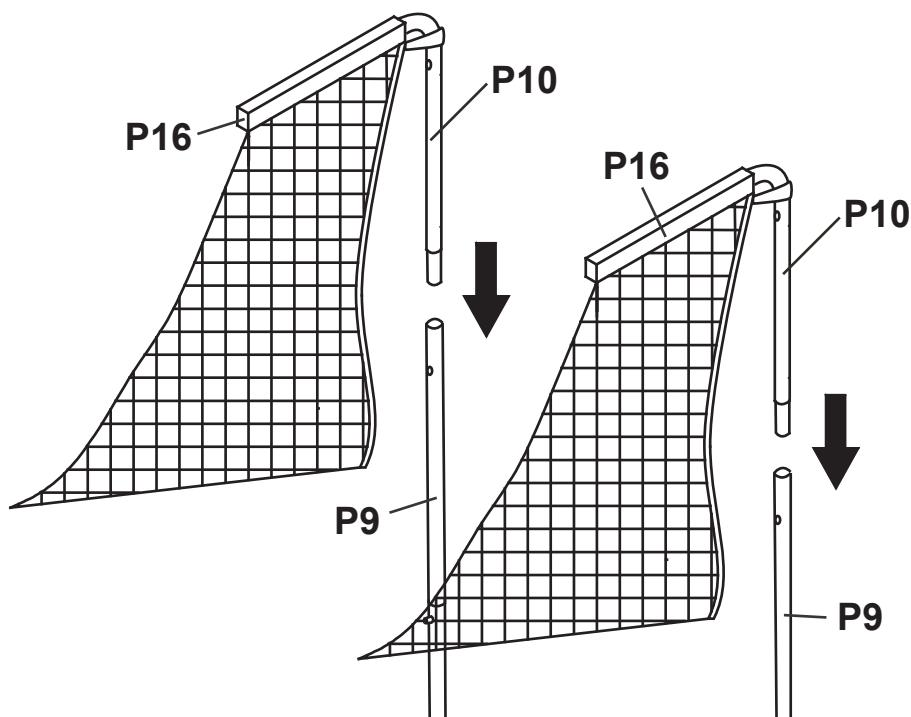

Figure 9
11. Insert Top Tubes **P10** into Back Tubes **P9** as shown in **Figure 9**.